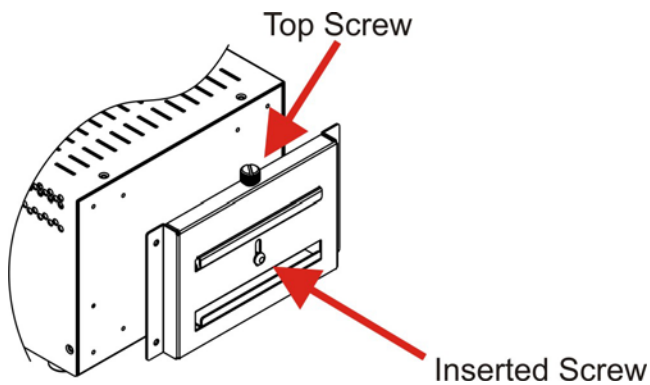

Figure 4-15: Screw Locations
Step 2: Make sure the inserted screw in the center of the bracket is at the lowest position of the elongated hole (Figure 4-15).